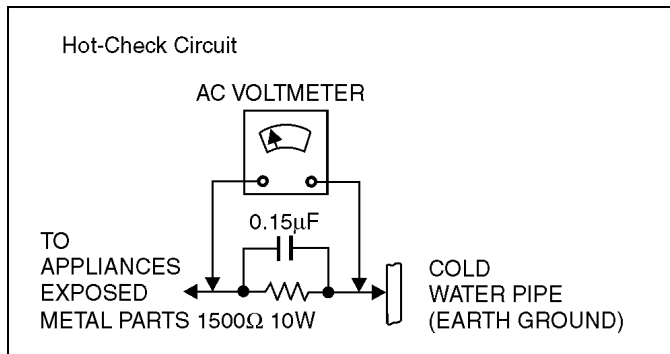

Figure 1
2. Connect a  $1.5k\Omega$ , 10 watts resistor, in parallel with a  $0.15\mu\text{F}$  capacitors, between each exposed metallic part on the set and a good earth ground such as a water pipe, as shown in Figure 1.